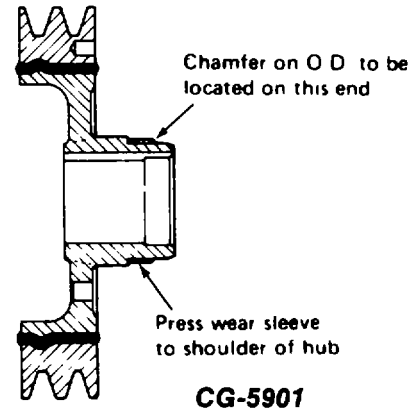
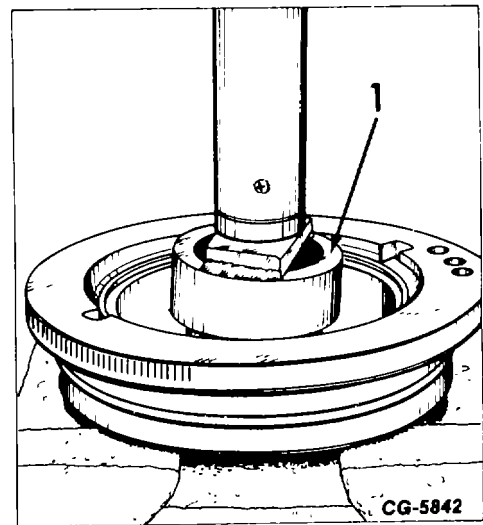

Figure 21. - Wear Sleeve Installation (All Applications Similar)
Figure 22. - Crankshaft Pulley Hub Wear Sleeve Installing Tool
- c. Install a new sleeve as shown in Fig. 21, using tool No. 3004, depicted in Fig. 22.